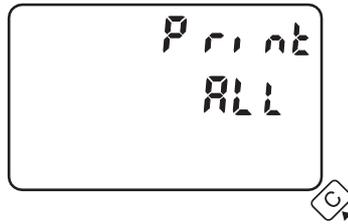

Fig. 20
- Press C button to go to the PRINT ALL mode as shown in Fig.20. Pressing A button will print all recorded memories to the printer (if printer is connected). When the stopwatch is in the process of printing, an indicator moves from right to left. When printing is complete PRINT END is displayed.
- In Fig. 20 press D button once will switch to UPLOAD MODE as shown in Fig.22. Pressing A button will UPLOAD ALL recorded memories to computer (if computer is connected). When the stopwatch is in the process of uploading, an indicator moves from right to left. When upload is complete UPLOAD END is displayed.